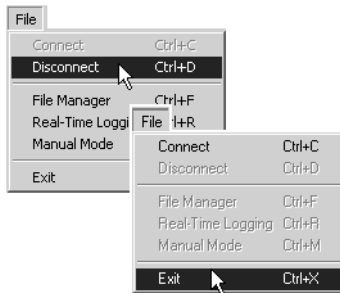

Figure 2-11. Click Disconnect then Exit
8. Click on **File->Disconnect**, then **File->Exit** to quit PC-CDU (Figure 2-11).